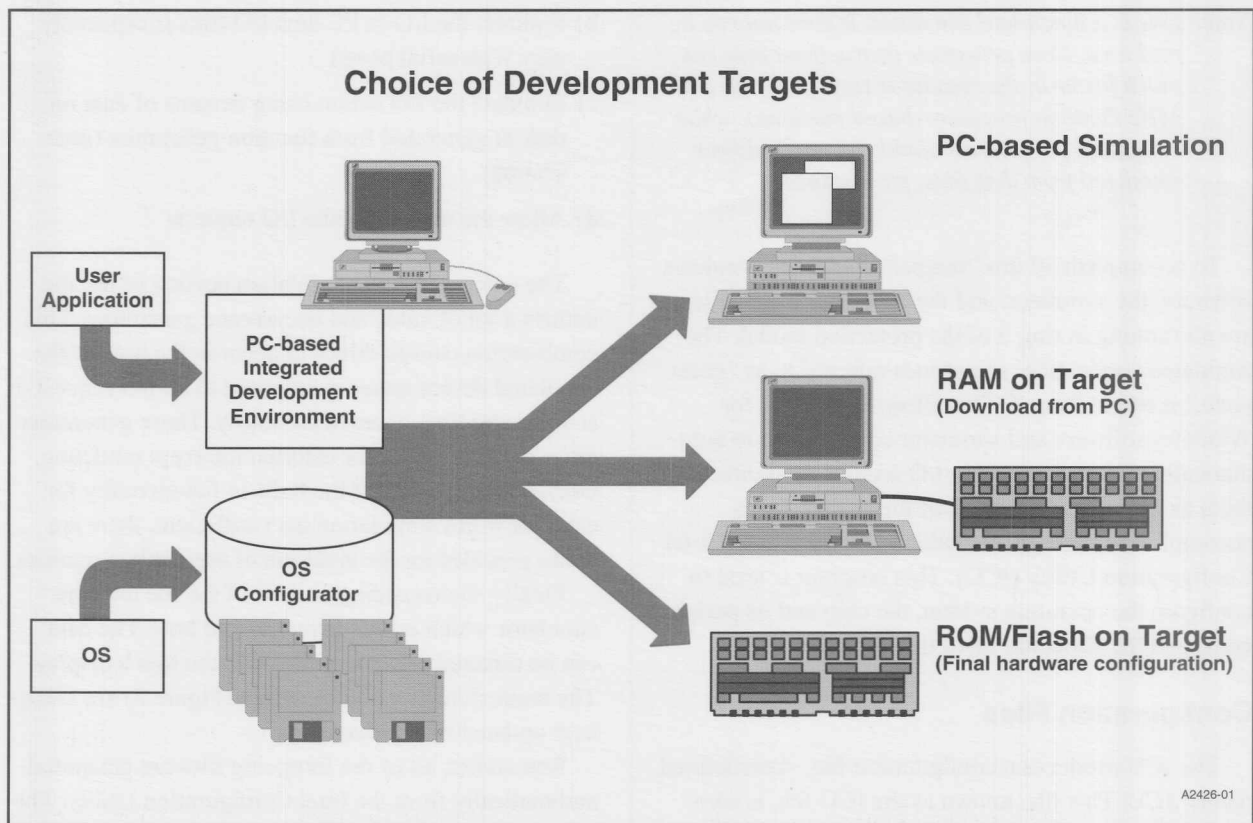

Figure 4. Development Targets
4. The software development team tests their code on the simulator/debugger as the hardware development proceeds (upper arrow in Figure 4).
5. When test hardware becomes available, final software testing can proceed using the same debugger on the hardware target through a serial link. If there is a lack of hardware test targets, the simulator/debugger can continue to be used by some members of the team until the project is complete or more hardware is constructed (middle arrow, Figure 4).
7. Build of final system; production can begin (lower arrow, Figure 4).